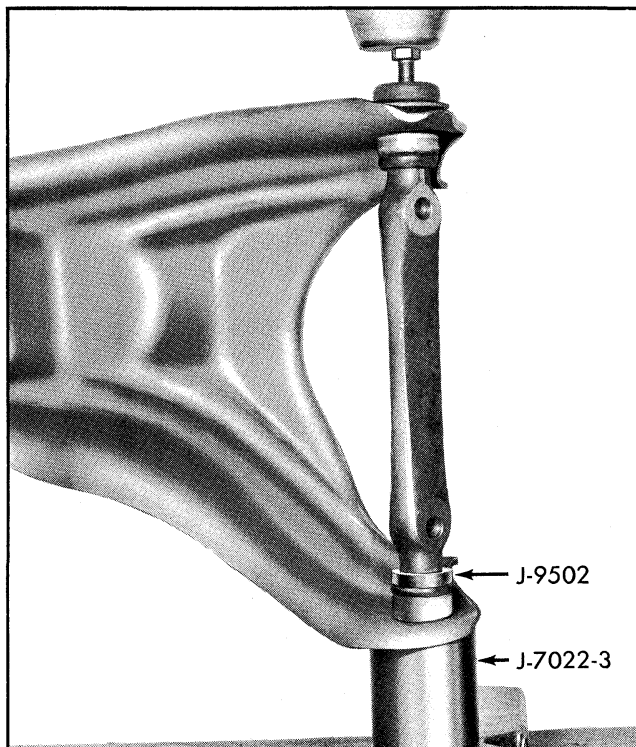

Fig. 3-15 Removing Bushing
7. Invert control arm for bushing removal as shown in Fig. 3-15 with retainer bolt in opposite end of shaft and press out with arbor. Other bushing may be removed in same manner.